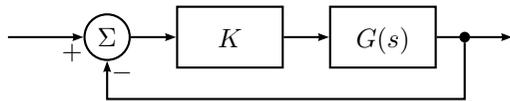
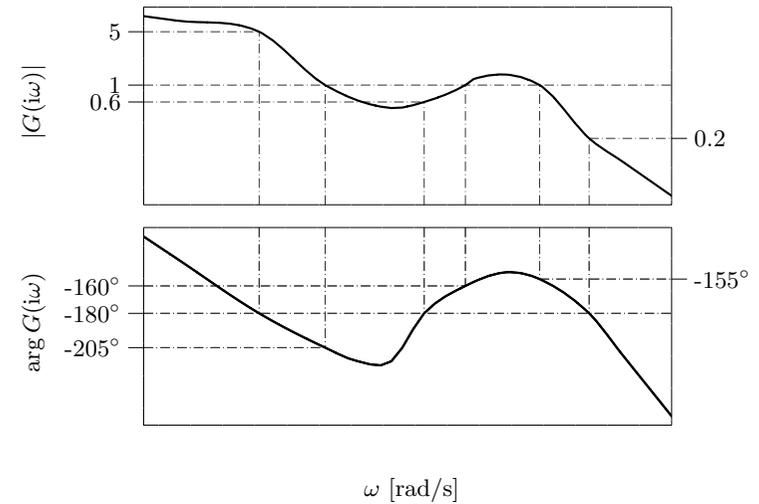

Figure 5.7a
Figure 5.7b
5.7 The amplitude curves and the phase curves in Figure 5.7b have been measured for a system without poles in the right half plane. The system is controlled using feedback according to Figure 5.7a. Use the Nyquist criterion to decide for which values of K the closed loop system is stable ($K > 0$).